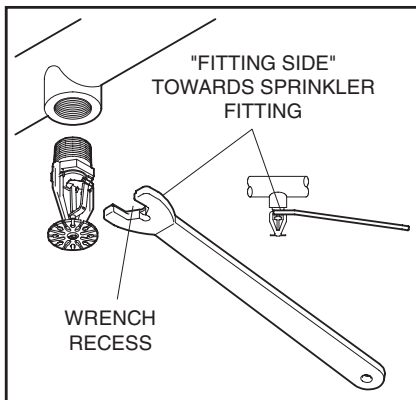

Figure 2
Step 3. Wrench tighten the K25-1 Sprinkler using only the W-Type 1 Sprinkler Wrench (Ref. Figure 2) and by fully engaging (seating) the wrench with the sprinkler wrench flats.